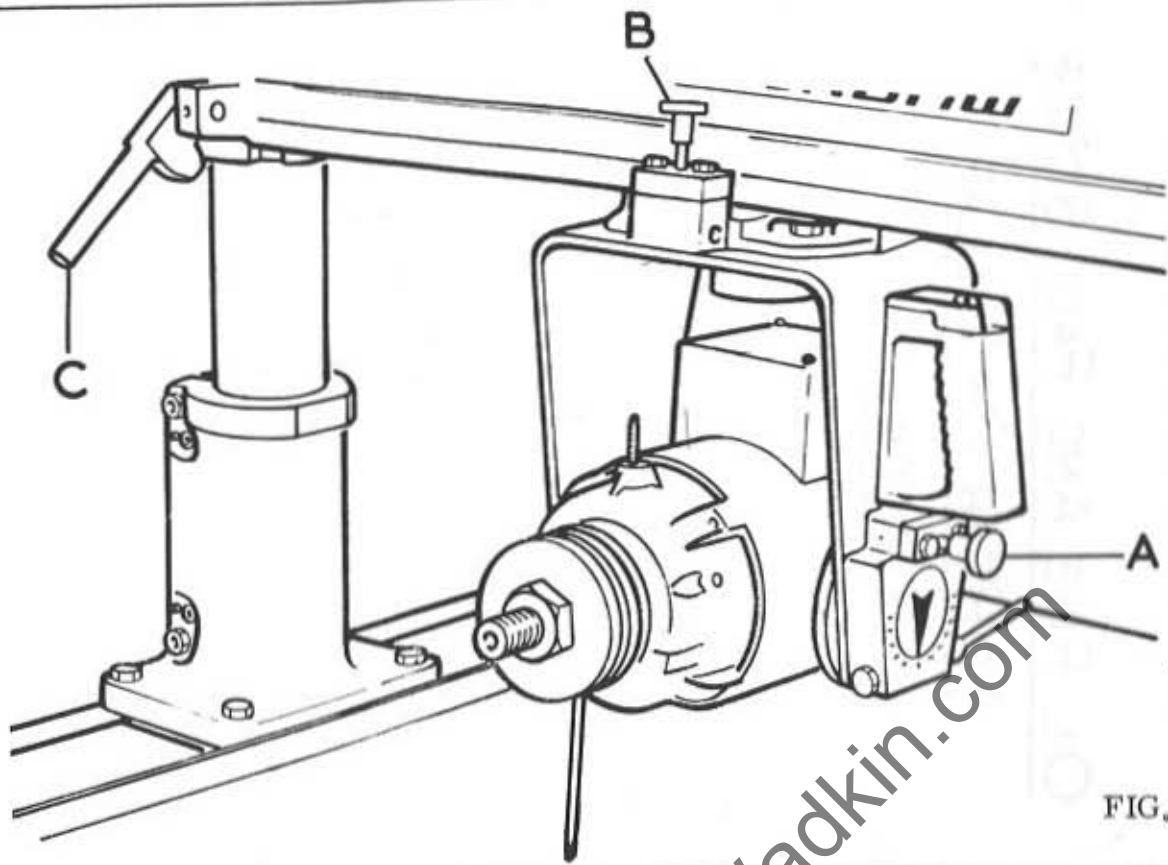

FIG. 5.
2. Ensure the motor locating plunger "A" in Fig. 5 the stirrup locating latch "B" and the carriage locking screw "A" in Fig. 15 are securely locked.
3. Secure a small dia. rod between saw flanges as shown in Fig.5 then raise or lower the arm until the end of the rod almost touches table.
4. Lift arm locating latch "C" in Fig. 5 and swing arm to extreme ends of table checking that the clearance between the rod and table remains constant.